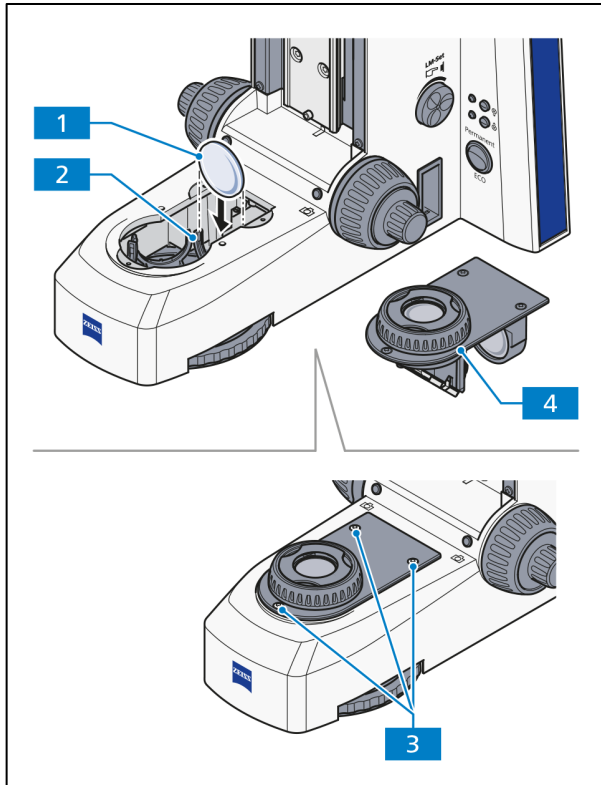

Fig. 3-51 Changing the filter in the filter wheel transmitted light
- Unscrew three screws (Fig. 3-51/3) of the field diaphragm socket (Fig. 3-51/4) and pull the socket out of the stand base.
- If necessary, pull the filter to be changed (Fig. 3-51/1) out of the corresponding position of the filter wheel (Fig. 3-51/2).